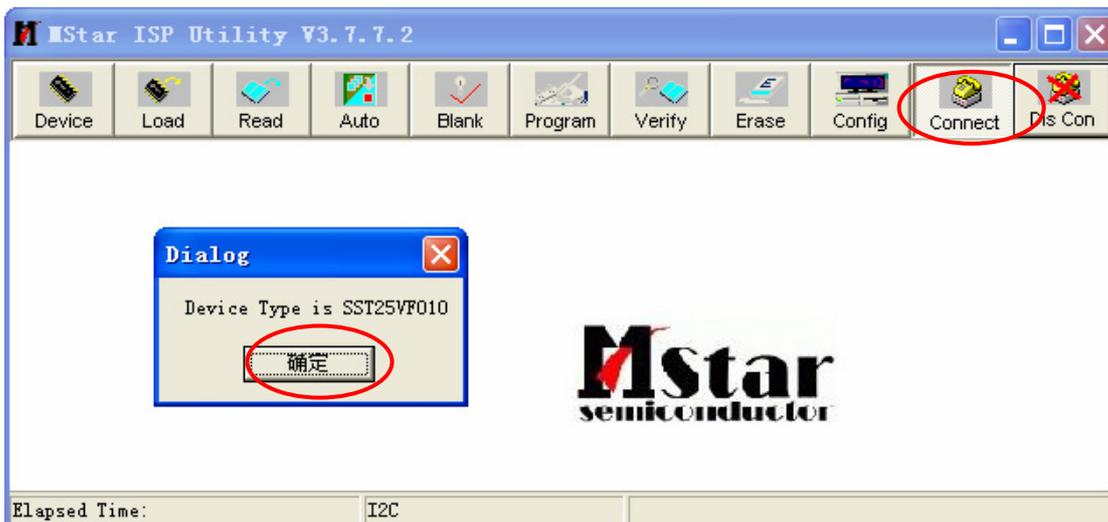

Fig.2
Step 1: Double click the ISP_Tool v3.772.exe  icon and click Connect, bring up Fig.2